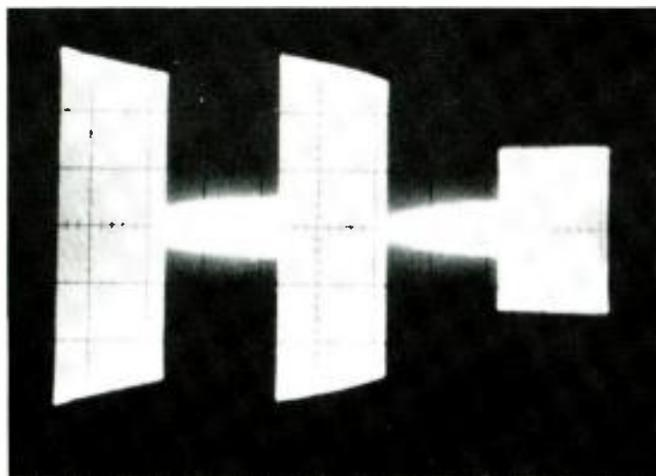

Fig. 2. Low frequency pulse results after modification
1. Phasor Controls. The phasor input circuit is very important in maintaining the desired common point impedance. This is the last link between the antenna system and the transmitter output. Almost any changes made to the system on the antenna side of this circuit will change Z_{cp} . If the phasor input circuit is properly designed, it is a simple matter to reset Z_{cp} . Shown in Figure 2 is a phasor input circuit that is typical of some older installations. There are probably very few unmodified phasor input circuits still in use because of the difficulty in obtaining the desired impedance when antenna system parameters change. This type of circuit can be changed to Figure 3,
At this point, calculations were made to determine the low frequency time constant of each stage's coupling circuit. Once these were obtained, new increased capacitance values were calculated that would provide a flatter square wave response at low frequencies. Premium quality, high temperature electrolytics were chosen for high reliability under continuous service. After the new capacitors were installed, a substantial improvement was observed in the square wave pulse response. The modulator was then reconnected to the transmitter and RF feedback reapplied. The low frequency pulse test was run again and the results appear in Figure 2. Also, the common point (antenna system input) RF sample waveforms were similar to those of the dummy load.